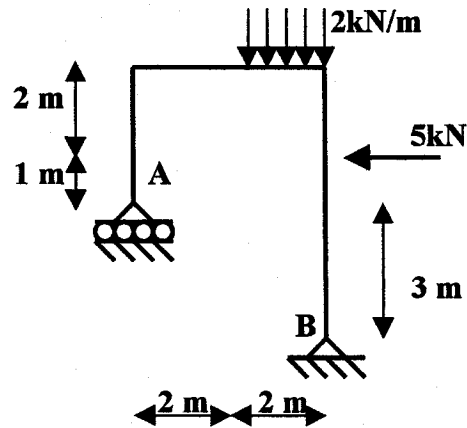

Fig. Q4
4. Draw the bending moment diagram and the shear force diagram for the frame shown in Fig. Q4 (roller support at A, pin at B).